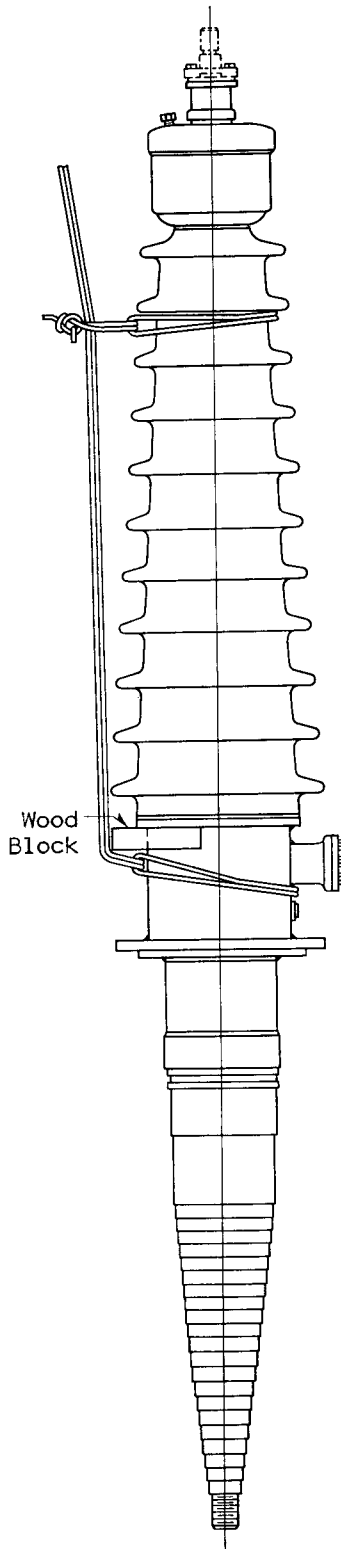

FIG. 1
8. The type "N" and type "ON" condenser bushings should be lifted out of the packing case by means of a rope looped around the flange. The ends of the bushing should be stayed or guyed by means of ropes so that it will not upset during lifting. During installation, it is recommended that the bushing be lifted as shown on Figure 1. If it is desirable to lift the bushing in a more vertical position for mounting in transformers, it can be accomplished by using a second lifting rope in a position 180° from the one shown.